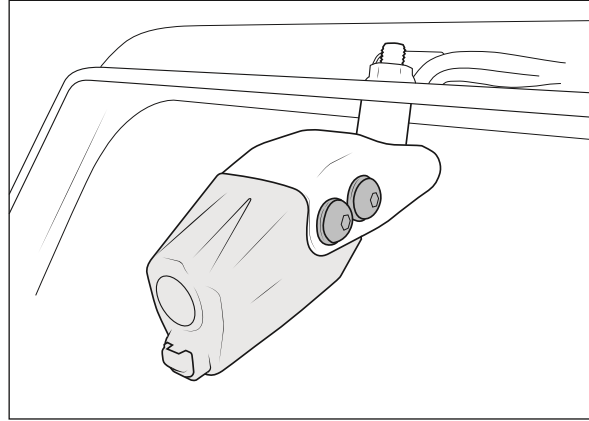

Figure 17
7. Install the camera relocation housing to the stamped bracket using provided M10 button head bolts and washers on the outside, with flange nuts on the inside. Tighten bolts until snug. Overtightening can crack the plastic (fig. 17).